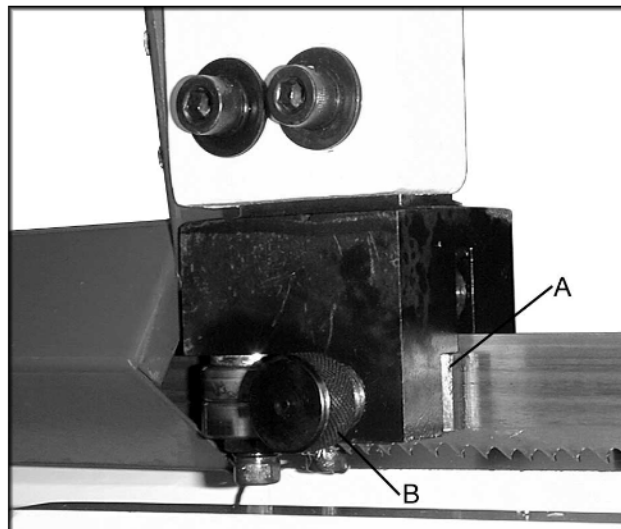

Fig. 11
2. Adjust spring loaded blade guide (A, Fig. 11) by loosening or tightening the guide adjustment screw (B, Fig. 11).